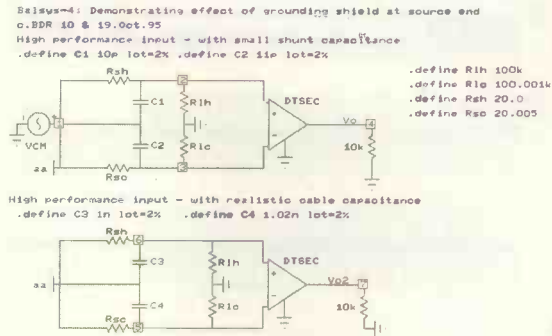

**Fig. 5. In these two test circuits, the effects of perfectly balanced shunt cable and rf filter capacitances are examined in a high cmr performance environment.**
In Fig. 5, the effects of shunt capacitive reactance are added and part isolated for study. This time the circuit source and load resistors are untoleranced, but offset with realistic high specification mismatches of 0.025% for 20Ω and 0.001% for 100kΩ.
As in Fig. 5, note that realistically imbalanced resistive values set a maximum cmr baseline, and that cable capacitances are tied to ground. This is the receiver output reference, alias local 0V. This means the shield is connected to earth only at
**Fig. 10. Common-mode rejection plots back up the theory – as the effects of the shunt cable capacitance on cmr is greatly diminished – compare with Fig. 8. Still, a more advanced model is needed to account for many documented instances where consistently wired systems have actually buzzed less with the Fig. 5 and 7 type connection.**